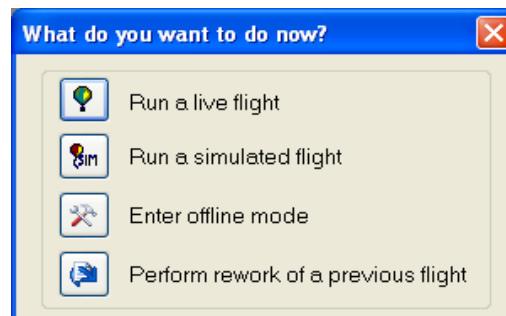

Figure B-24: Main RWS Menu
3. If the message *Synoptic flight was missed...* appears, click **No**. The main RWS menu will display (Figure B-24).